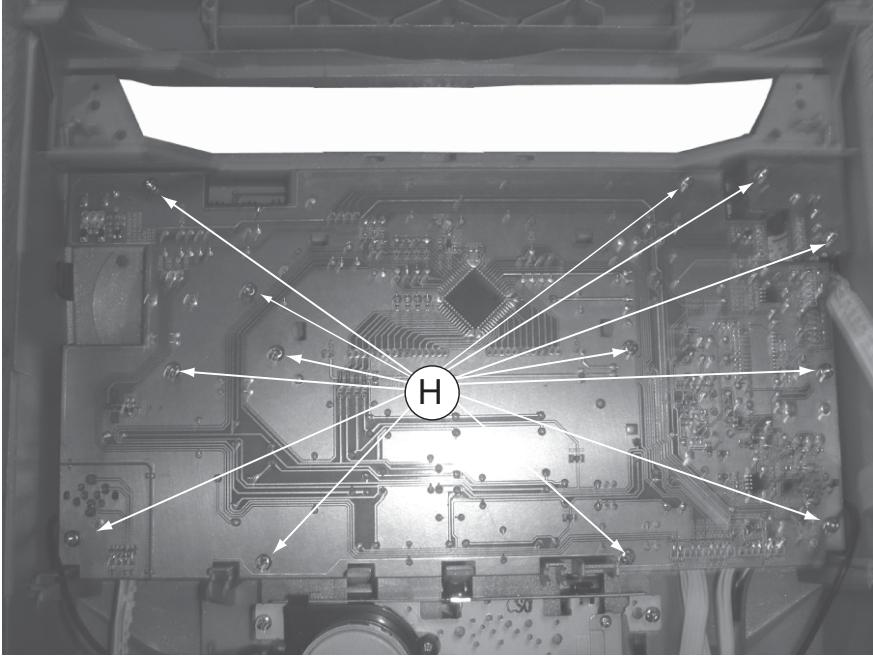

Figure 12
- 1) Loosen 13 screws 'H' to remove the KEY board figure 12.